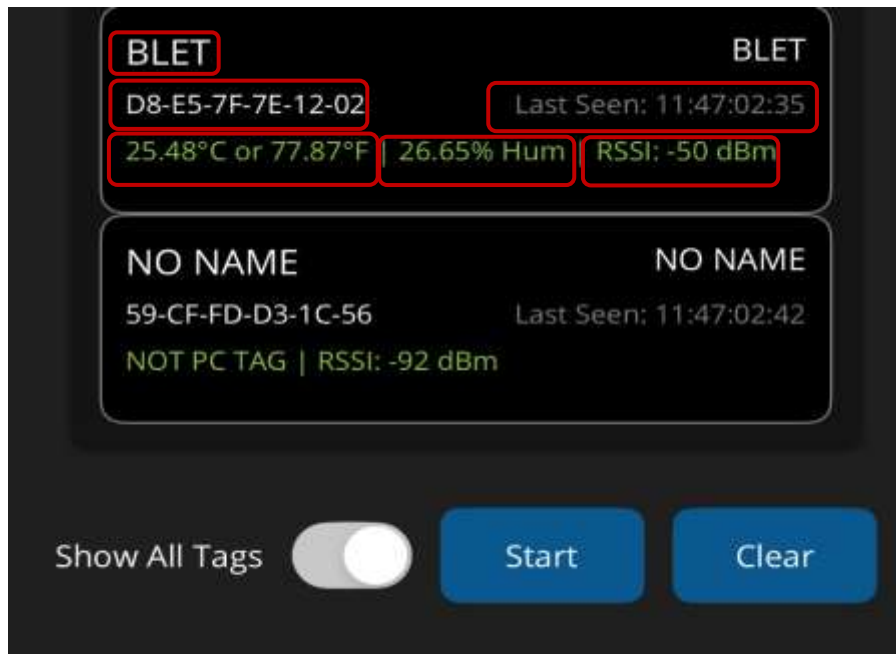

Fig 3: Multiple BLE Tag data points
- v) Each tag displays multiple data points when scanned by the app: (Refer fig 3 below)